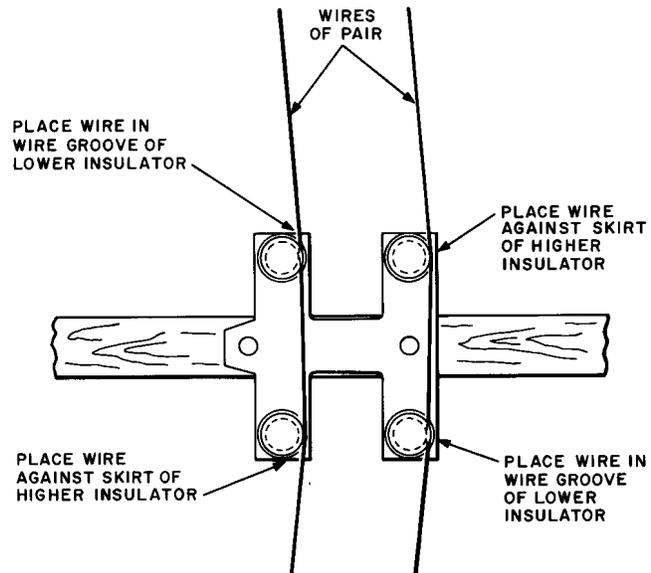

Fig. 9—Wires Placed at Corner Transposition
11.01 At all corners at which transpositions occur, place the line wires in the wire grooves of the insulators as shown in Fig. 9. Ease the wire around the corner by hand as it is pulled up or let off during the tensioning and sagging operations, so the insulators will not turn from their positions on the pins. It is important to